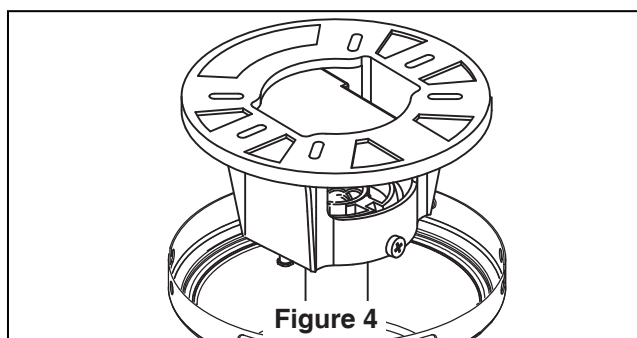

Figure 4
3. Once the connection has been made, slide the receiver into the hanger bracket, taking care not to pinch the wires (Figure 4).